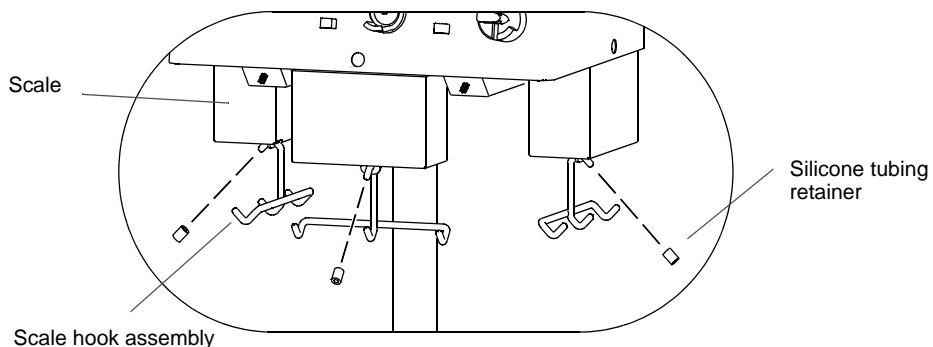

Figure 6. Hanging Hooks on the Scales
10. Place the assembled machine in the upright position and remove the foam packing material (See Figure 6).
11. Hang a scale hook assembly from the pierced metal tab under each scale. Slide a silicone tubing retainer over the end of the hook in the metal tab (See Figure 6).